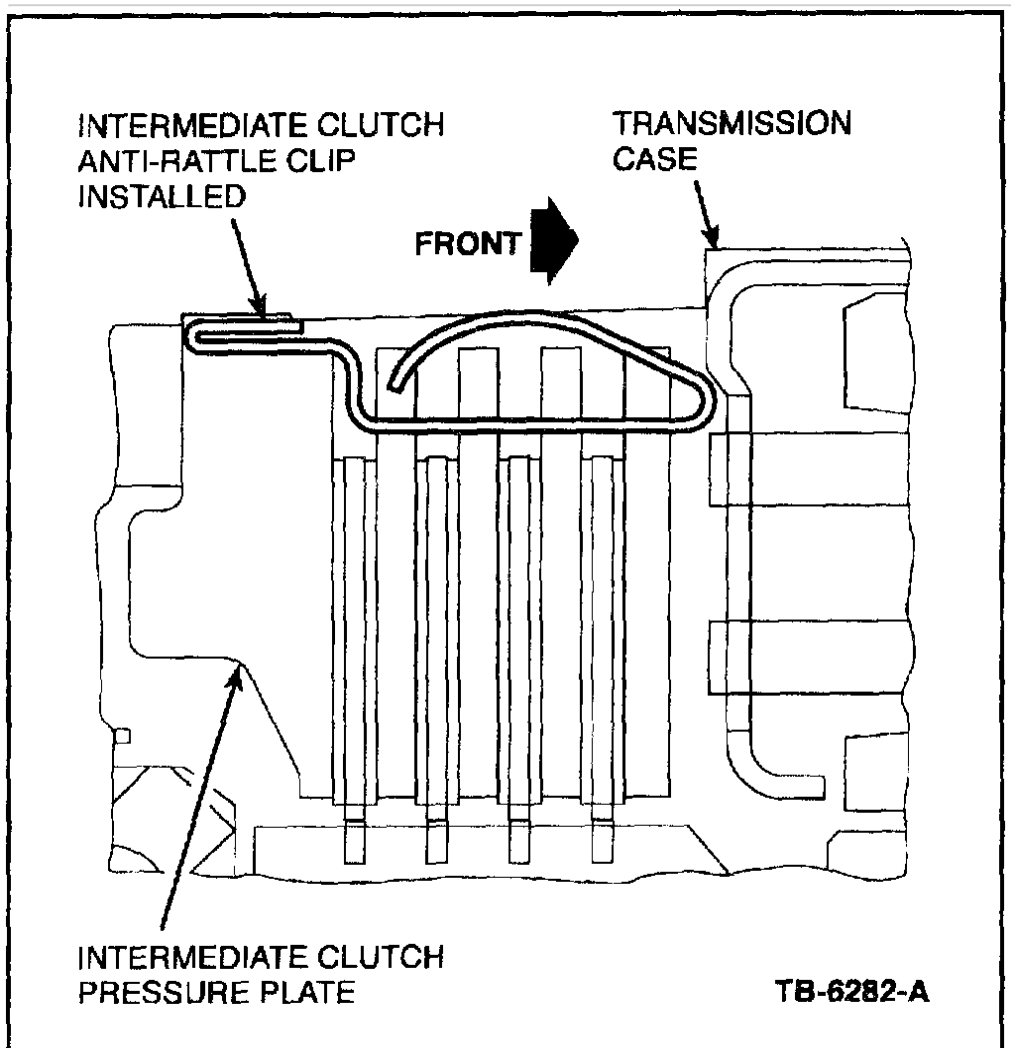

Figure 1
6. Install new Intermediate Clutch Anti-Rattle Clip (YL3Z-7A609-AA) in the center of the 1 o'clock case position. Push clip in until fully seated. (Figures 1 and 2).